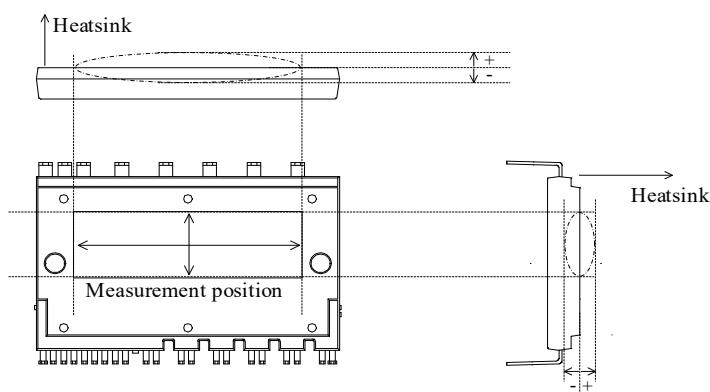

Figure 5-1. Flatness Measurement Position
| Flatness of Heatsink Attachment Area (1) | See Figure 5-1 | 0    | —    | 100  | μm     |